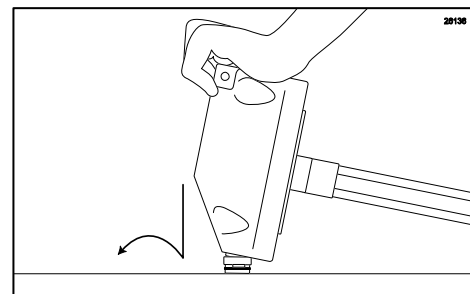

Figure 108
3. Set the Adapter on a flat, clean surface, and then place the freezer door spout upright onto the Adapter. Rock the freezer door forward to snap the Adapter into place. (See Figure 108)